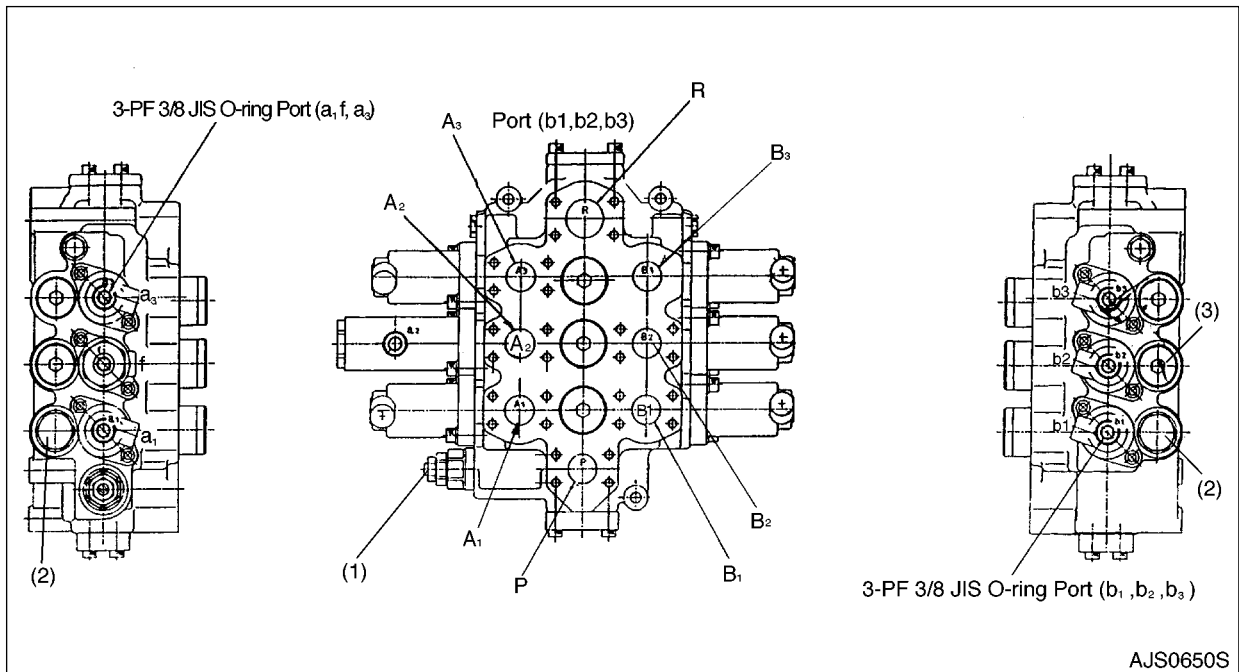
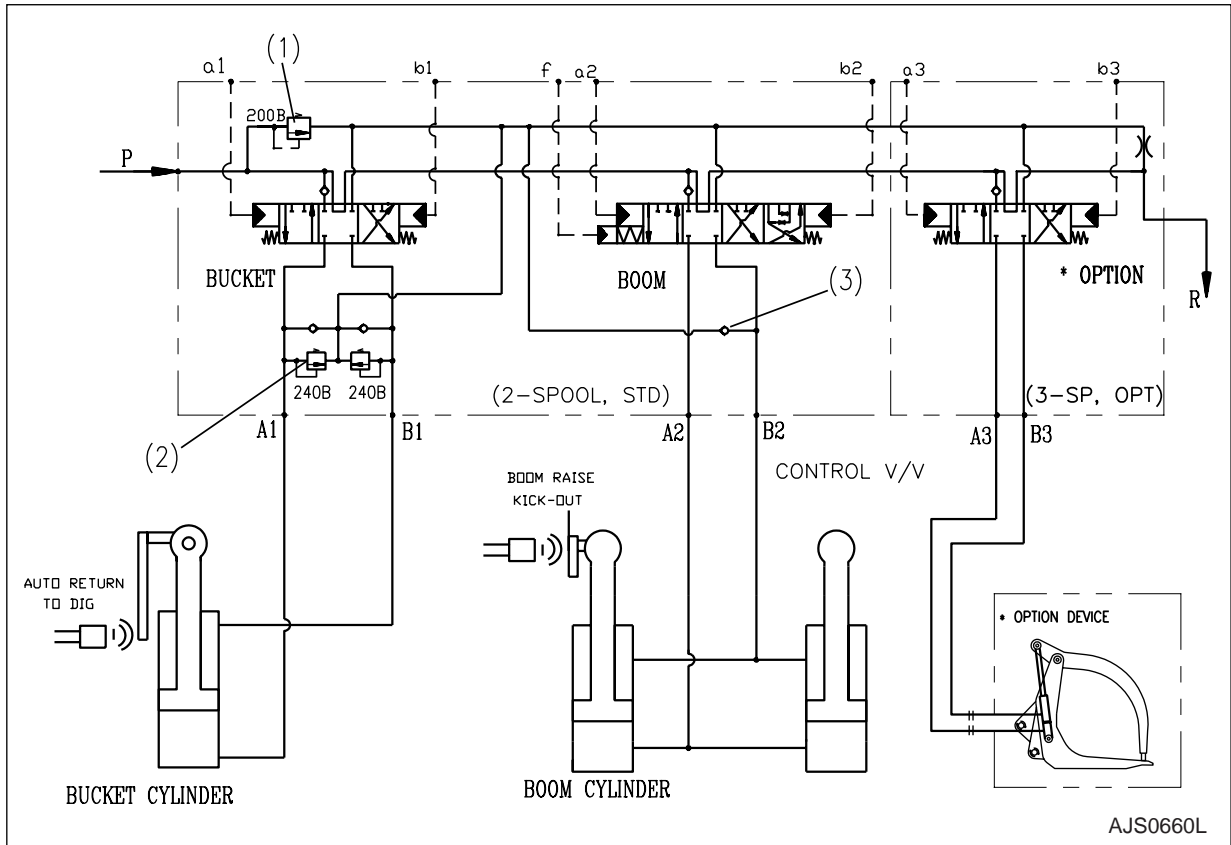

Figure 1
Figure 2 Control valve hydraulic circuit
Pump output flows to port P on the main control valve. See Figure 1. Maximum pressure is prevented from exceeding the desired level by the main relief valve (1). See hydraulic schematic (Figure 2). When all spools on the main control valve are in the neutral position (when the pilot valve is not being operated), oil passes through port P, the bucket spool, the boom spool, the option spool, and passes out T, the tank port. Oil that passes out the tank port passes through a filter and returns to tank.